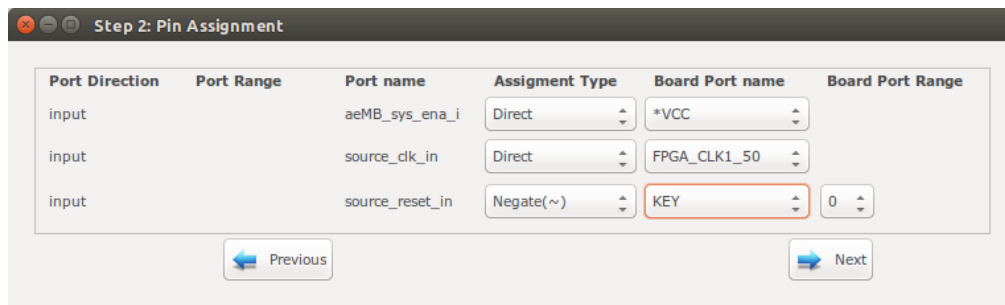

Figure 6.11: DE10-Nano FPGA board pin assignment.
2. Follow instructions in Compile the generated RTL code using Quartus II software to compile and run the desired SoC on an FPGA board. For instance the pin assignment on DE10-Nano FPGA and a snapshot of a sample result on UART terminal is shown in Figures 6.11 and 6.12, respectively. You can test the GCD IP core by entering different values.